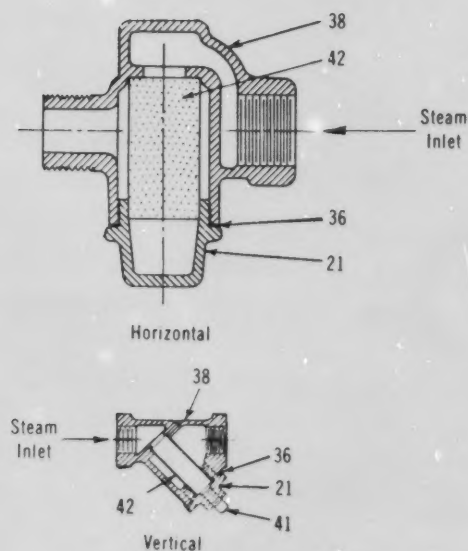

Figure 31-13. Steam Strainers
103. *Steam Strainers:* (Refer to Figure 31-13 in the accompanying appendix.) The steam strainer is installed on the incoming steam-supply line to remove any foreign materials in the steam supply. It has a strainer (42) that can be removed and cleaned.